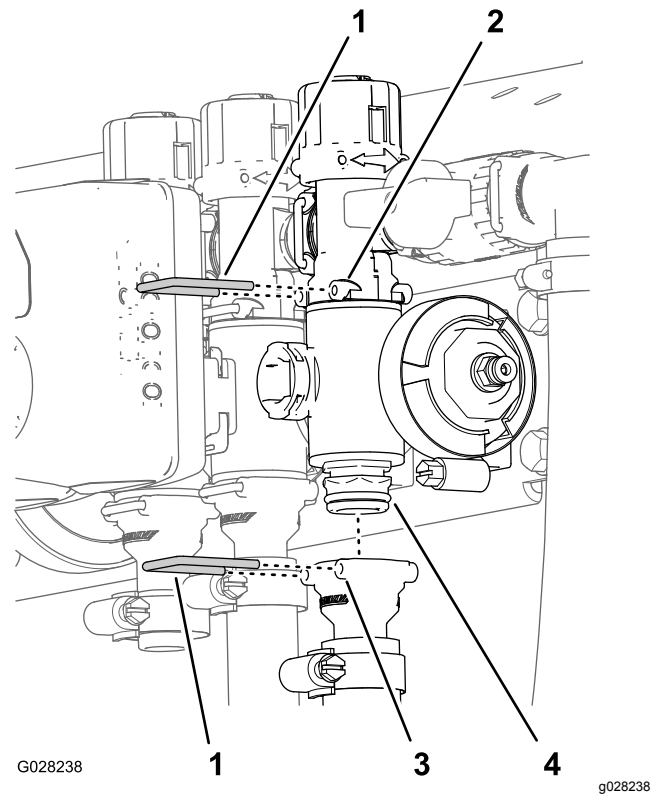

Figure 120
2. Remove the retainers that secure the outlet fitting to the section valve manifold and the valve manifold to the bypass fitting (Figure 120).